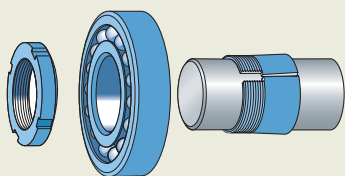

Fig. 26
- 3 Tighten the nut with a hook or impact spanner until the correct clearance in the bearing is obtained (fig. 26).